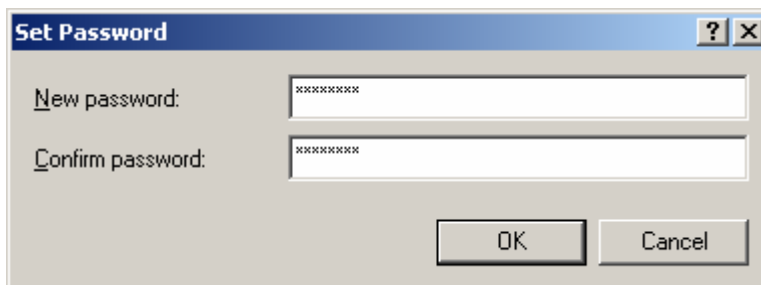

Figure 2-93 [Set Password] dialog box
- 2) In the [Set Password] dialog box, enter the new password and confirm the password. Click <OK>. See Figure 2-93.